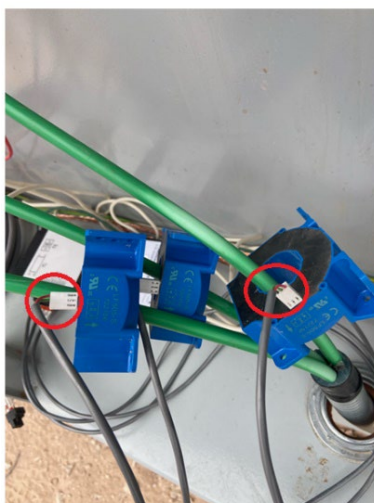

Figure 4.11—PowerDAQ to current sensor connections
4. Once the current sensors are positioned on the phases, connect the PowerDAQ current sensor cable from the PowerDAQ module (gray cable with white connector) to the current sensors (Figure 4.11).